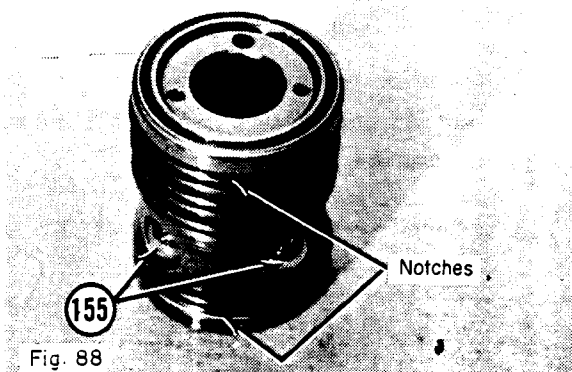

Fig. 88
6. After the bias spool (154) is out, take care not to drop the steel ball bearings (155) out of the spool. You will note that there are two notches in the spool at 180 degrees to each other on either side of the spool where each bearing comes into contact on the flat side of the spool. (Fig. 88)
7. To remove a split ball bearing (152) from either side of the bias spool (154), get two small screwdrivers. Position them in the notches provided, lift up and at the same time push into the notches to lift the bearing off.